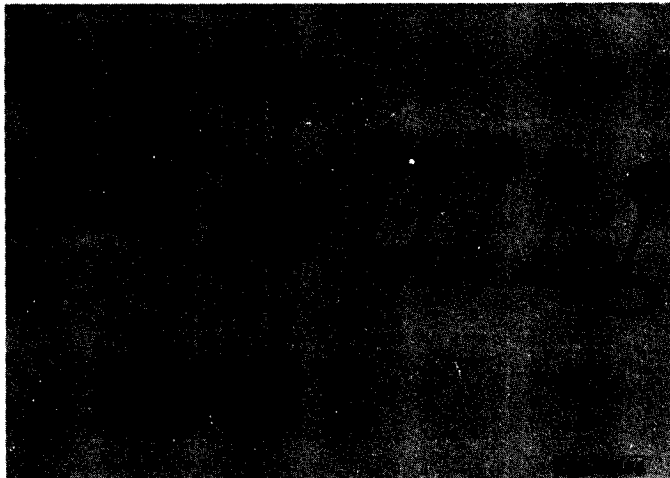

Figure 13-8
Remove "O" rings (1, Fig. 13-8) from piston (4). Remove spring (2) and valve (3). Slide exhaust stem (8), and spring (7) out of piston. Remove washer (6) and "O" ring (5).
Install exhaust stem "O" ring (5, Fig. 13-8) in piston (4) and cover with washer (6). Drop valve (3) into piston and install spring (2) with its small end towards valve (3). Press spring (2) in until its large coiled end snaps into groove in piston. Place exhaust stem spring (7) on stem (8) and install in piston. Place "O" rings (1) on piston.